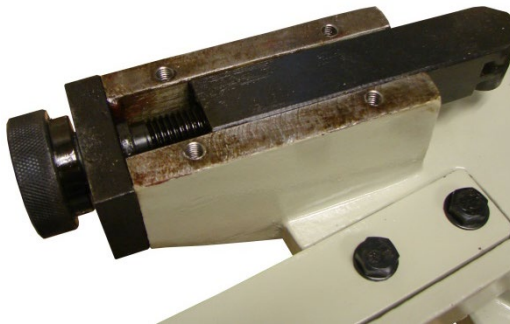

figure 6
1. Remove the slide cover (fig. 6) and grease the threaded shaft and the slide.